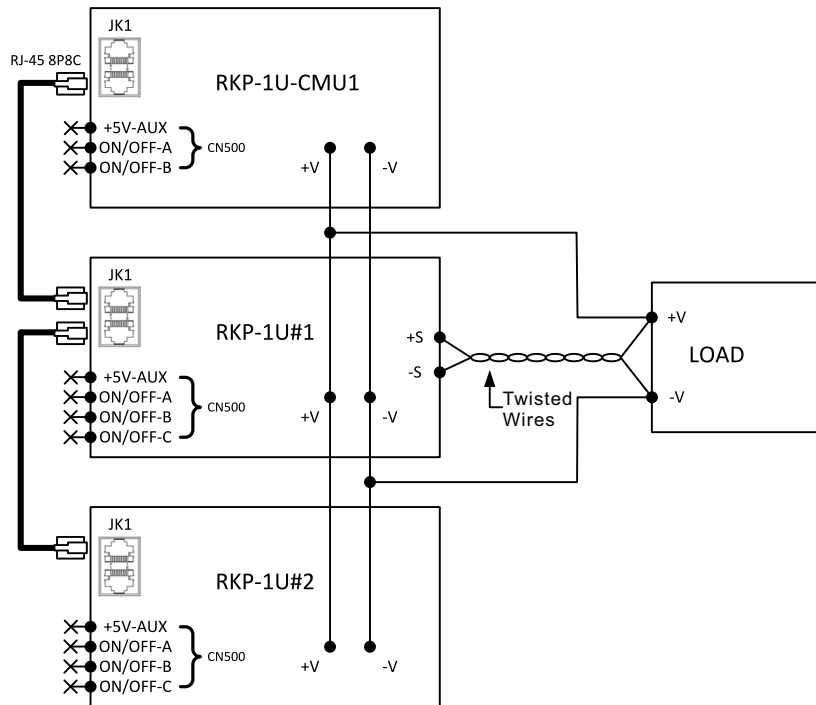
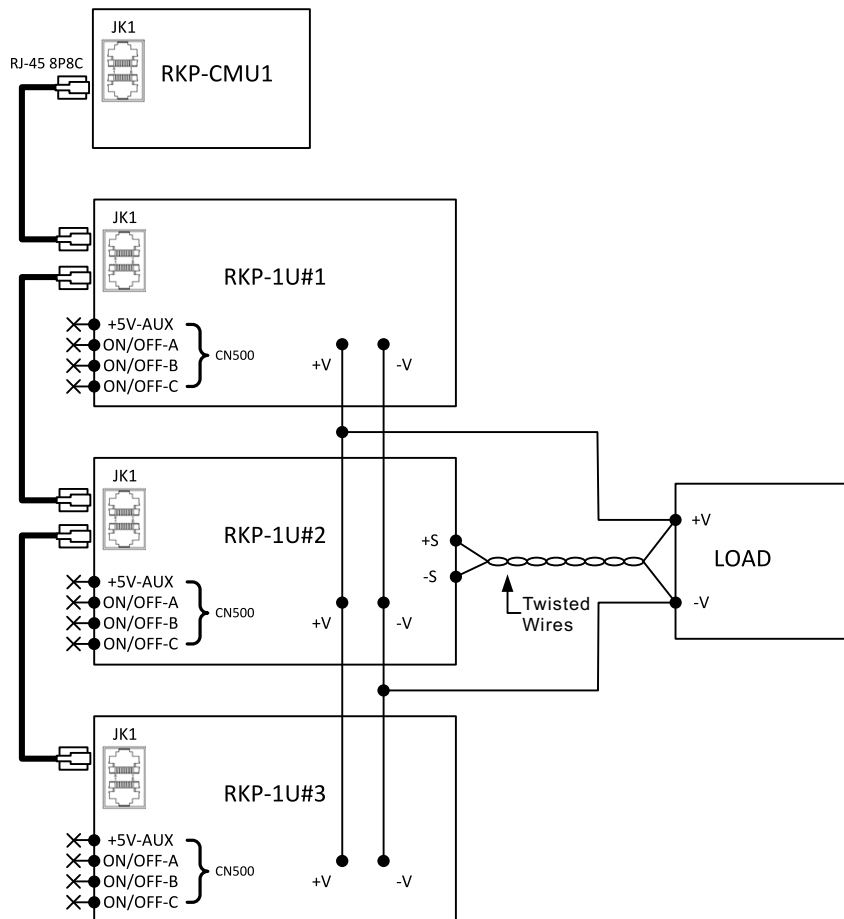

Figure 3-2 Configuration of a RKP-1U-CMU1 and two RKP-1Us
Figure 3-3 Configuration of a RKP-CMU1 and three RKP-1Us
- ◎Connect rack units in parallel before linking to the load. Do not connect rack units to the load separately. Refer to Figure 3-2 and Figure 3-3.
- ◎Use twisted wires for the wiring of +S and S. The twisted wires should not touch the load wires to avoid interference. Refer to Figure 3-2 and Figure 3-3.
- ◎Parallel operation of rack units is only suitable for the identical RCP-2000 units, namely units with the same output voltage and current rating. Up to three rack units including a RKP-1U-CMU1 and two RKP-1Us (eight RCP-2000 units) can be connected in parallel, as Figure 3-2 shows.
- Please refer to the user's manual of RCP-2000/RKP-1U and Figure 3-3 for notes on parallel operation of RKP-1Us.